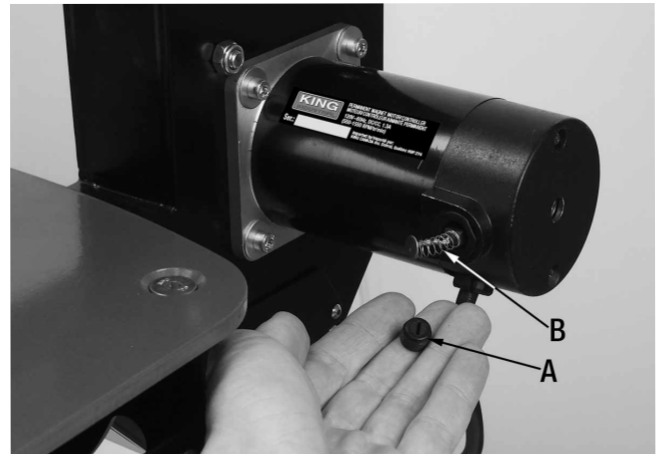

FIGURE 16
1. Unplug the saw. To access the carbon brushes, remove the carbon brush cover (A) Fig.16 with a flat-head screwdriver (not included).
2. Carefully remove the old carbon brushes (B) Fig.16. Keep track of which orientation the old carbon brushes were in to prevent unnecessary wear if they are to be reinstalled.